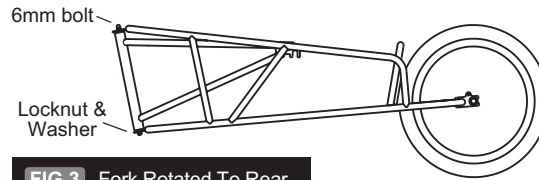
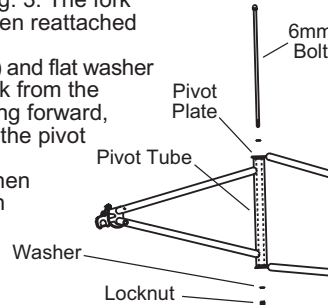

FIG.3 Fork Rotated To Rear.
FIG.4 Rotated Fork & Bolt Assembly.
2. FORK ASSEMBLY: For shipping purposes, the trailer fork has been attached to the frame pointing to the rear of the trailer, Fig. 3. The fork will need to be removed and rotated 180 degrees, and then reattached prior to use, as shown in Fig 4.
A) Remove the lock nut (Fig. 3, using two 10mm wrenches) and flat washer then fully remove the long 6mm bolt. This will free the fork from the trailer frame. Remove the fork. To reinstall the fork pointing forward, align the holes in the pivot plates of the trailer frame and the pivot tube in the fork as shown in Fig. 4.
B) Insert the long 6mm bolt with a washer on each end then tighten the lock nut, Fig. 4. Tighten the lock nut to 60 inch pounds (70 cm-kgs).